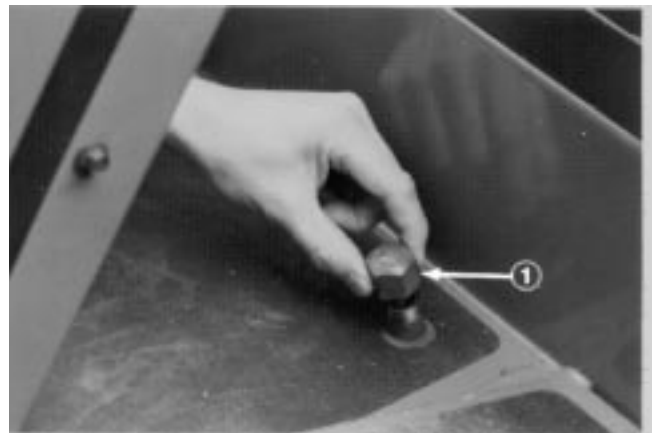

Figure 15
2. Remove dipstick cap (Fig. 15) from filler neck and wipe it with a clean rag. Screw dipstick cap finger-tight onto filler neck; then remove it and check level of fluid. If level is not within 1/2 inch (13 mm) from the groove in the dipstick (Fig. 15), add SAE 10W-30 engine oil, or, if used, automatic transmission fluid to raise level to groove mark. Do not overfill.